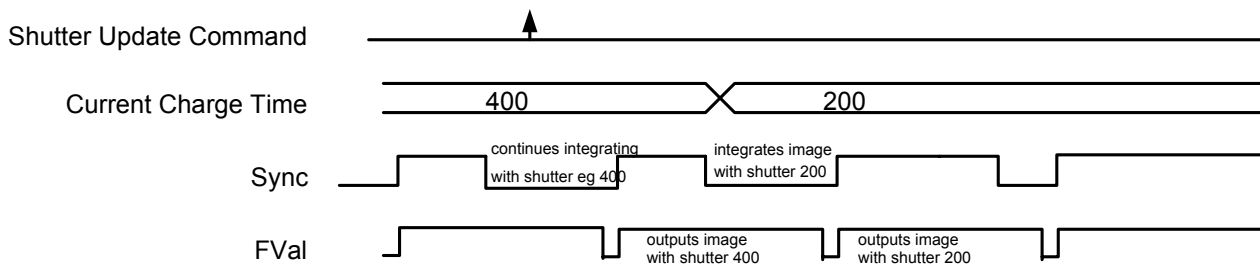

Figure 87: Former standard timing
- The delay from shutter update until the change takes place: up to 3 frames. Figure 87: Former standard timing on page 151 demonstrates this behavior. It shows that the camera receives a shutter update command while the sensor is currently integrating (Sync is low) with shutter setting 400. The camera continues to integrate and this image is output with the next FVal. The shutter change command becomes effective with the next falling edge of sync and finally the image taken with shutter 200 is output with a considerable delay.